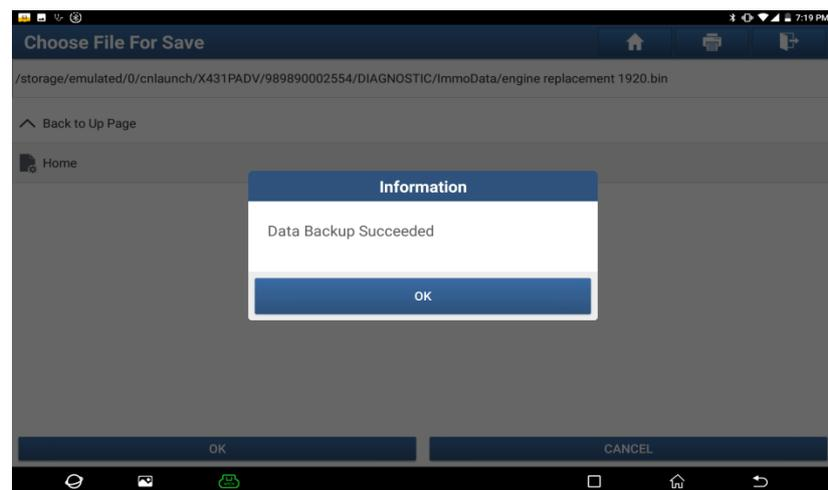

Figure 17
3.2.1.13 Enter the file name, and then click [OK], as shown in Figure 17.